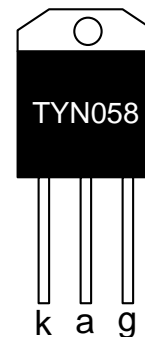

Fig. 2. Pin assignment of the SCR
- 2.2.1 Make sure the SCR and diode polarities are correct. The dash on the diode is at the cathode while the SCR pin assignment is shown in Fig. 2.